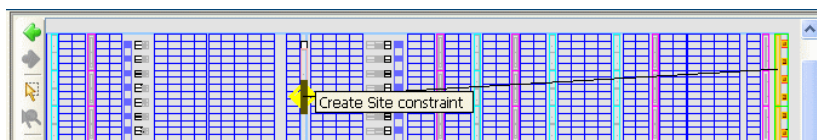

Figure 8-28: Manually Placing Clock Logic
3. Select the logic to place in the Find Results, Schematic or Netlist views, and drag it onto the available corresponding Device view site. Figure 8-28, page 262, shows an example of manual clock placement.